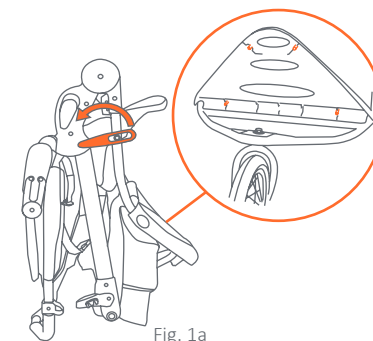
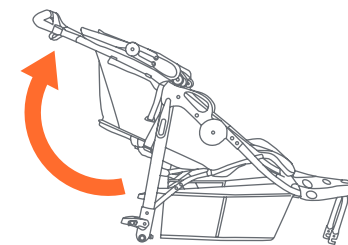

Fig. 1a
Fig. 1b
If assembly is necessary (Fig. 1a), see **Fender** page 20.
- 1) • Unlock the release lever (Fig. 1a) and unfold stroller frame by pulling upward on the stroller handle until the frame locks (Fig. 1b).